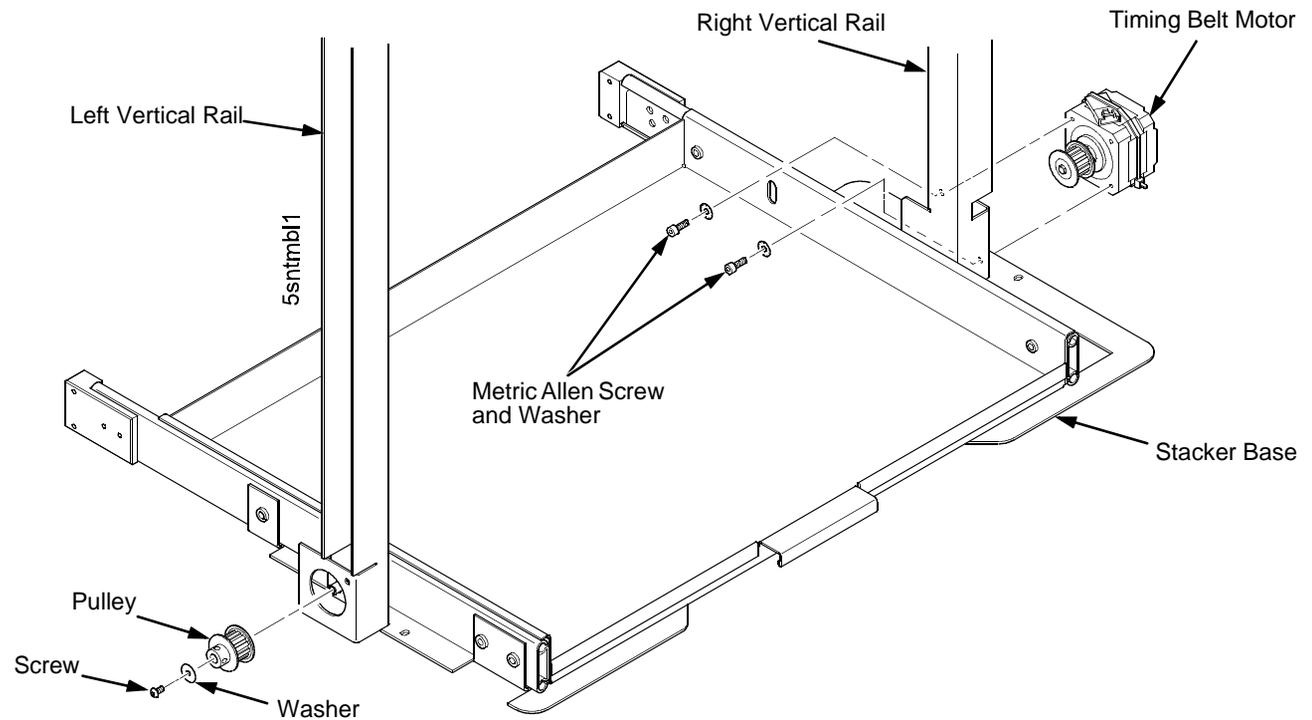

Figure 102. Removing the Timing Belt Pulley and Motor
3. If you are removing the left timing belt, remove the shoulder screw from the pulley at the bottom of the left vertical rail, and remove the pulley. (Figure 102.) Go to step 6.
4. If you are removing the right timing belt, remove the two metric Allen screws that secure the timing belt motor to the right vertical rail. (Figure 102.) Go to step 5.